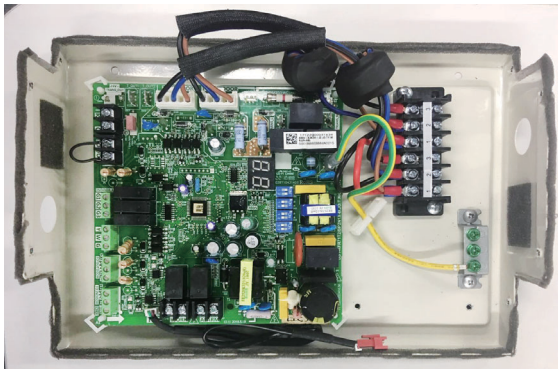

Fig. 18 — Wiring
4. The maximum airflow should not exceed 400 CFM/Ton. When the indoor fan coil has its own 24V AC transformer, all four wires of the 24V Interface kit transformer must be disconnected (see Fig. 18). The suction and liquid refrigerant lines must be properly insulated to prevent condensation and energy loss.